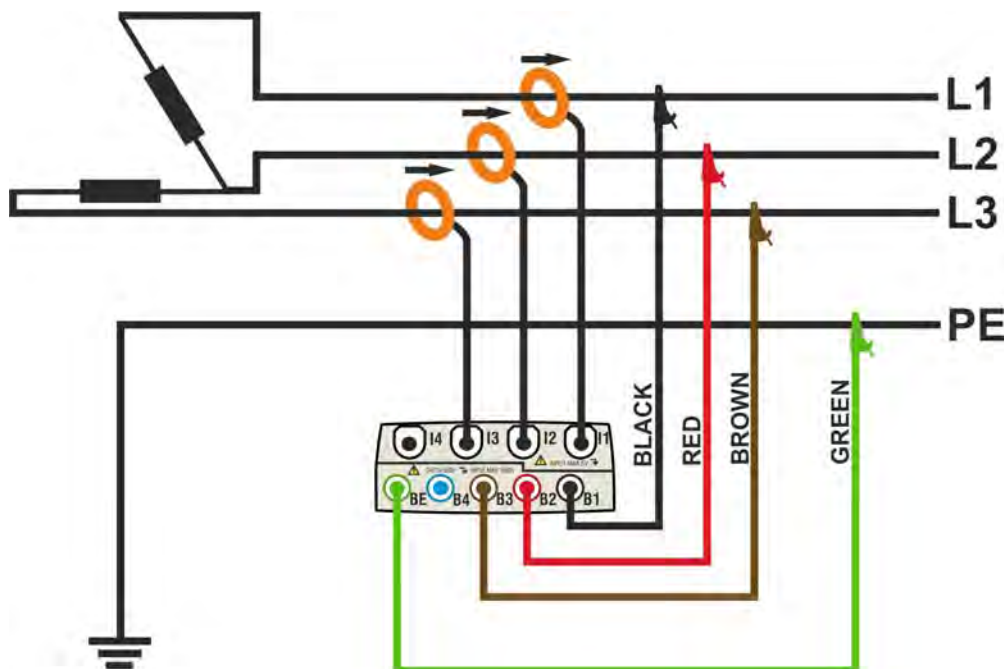

Fig. 140: Meter connection in a three phase 3POD system
2. Connect voltage test leads on Phases L1, L2, L3 and PE cables considering the colours as shown in Fig. 140. **Verify the result “123” at display relative to a correct phase sequence indication** (see § 5.2.1) and perform the corrections if necessary.
3. Connect the transducer current clamps on Phase L1, L2, L3 cables as shown in Fig. 140 respecting the clamp's arrow direction indicating the current standard sequence from generator to load. **On Real Time Values' section screens (selecting a 3 wire system preliminarily) always verify the positive value of Active Power and the power factor relative to load which should be normally inductive** before starting a recording. Reverse the clamp by 180 degrees on cables in case of negative readings.